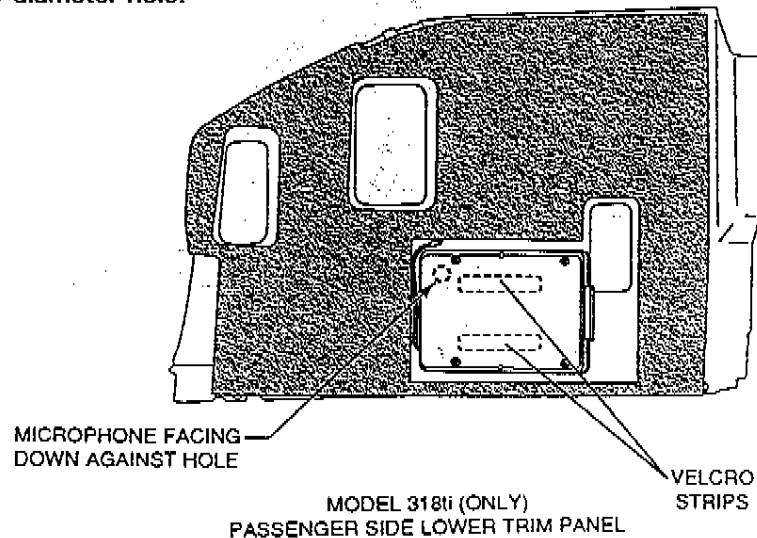

FIGURE 11
- See Figure 11 . Affix velcro strips to upper surface of the alarm control module. BMW label and microphone opening must face down when mounting alarm control module. Mount alarm control module on trim panel. Position alarm control module so microphone is positioned over 3/4" (19mm) diameter hole.